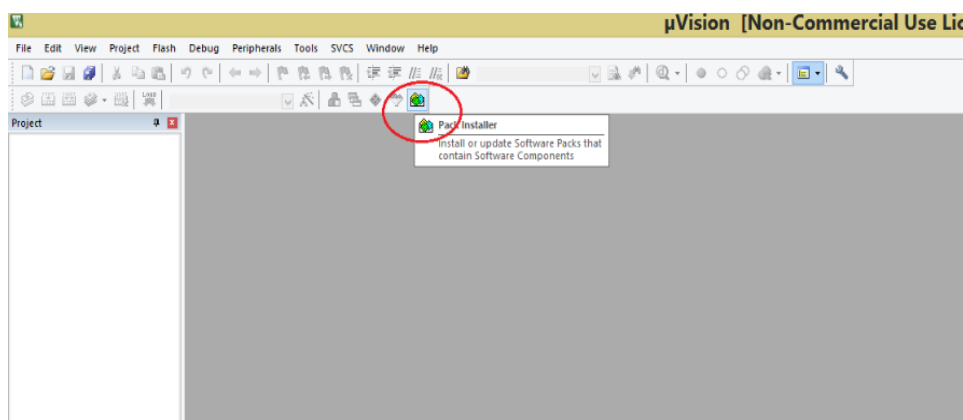

Fig. 2: Select Pack installer
2. Select Pack Installer option  in the top bar as shown in Figure 2.